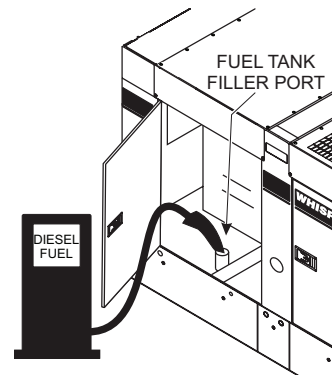

Figure 35. Fueling The Generator
2. Open cabinet doors on the “right side” of the generator (from the generator control panel position). Remove the fuel cap and fill the tank (Figure 35).